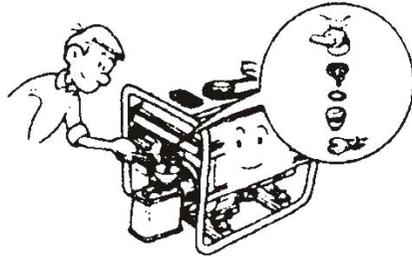

Figure 45
2.1 Loosen the drain bolt on carburetor and drain fuel inside it (Figure 45)